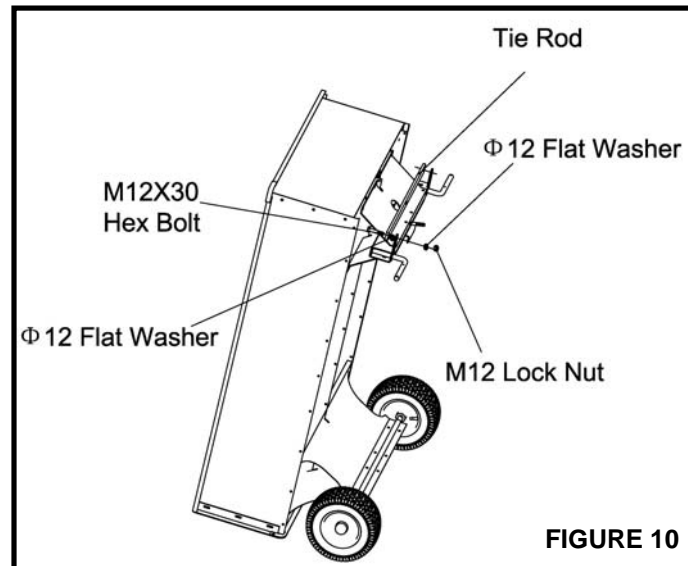

FIGURE 10
24. Assemble the tie rod to the axle spindles using two M12X30 hex bolts (C), four $\Phi 12$ flat washer (L) and two M12 hex lock nuts (I), Tighten, leaving oil enough that the spindles still pivot. See **Figure 10**.